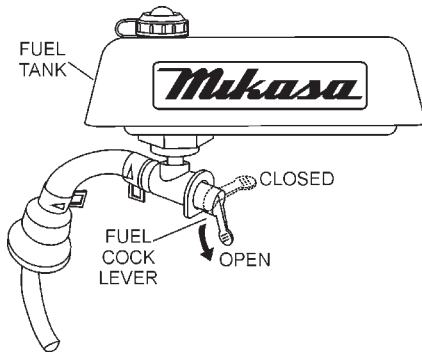

Figure 5. Fuel Shut-Off Valve
1. Open the **fuel shut-off valve** by moving the **fuel cock** lever to the **open** position (Figure 5).
2. Close the **fuel shut-off valve** (Figure 5) by moving the fuel cock lever to the **CLOSED** position.